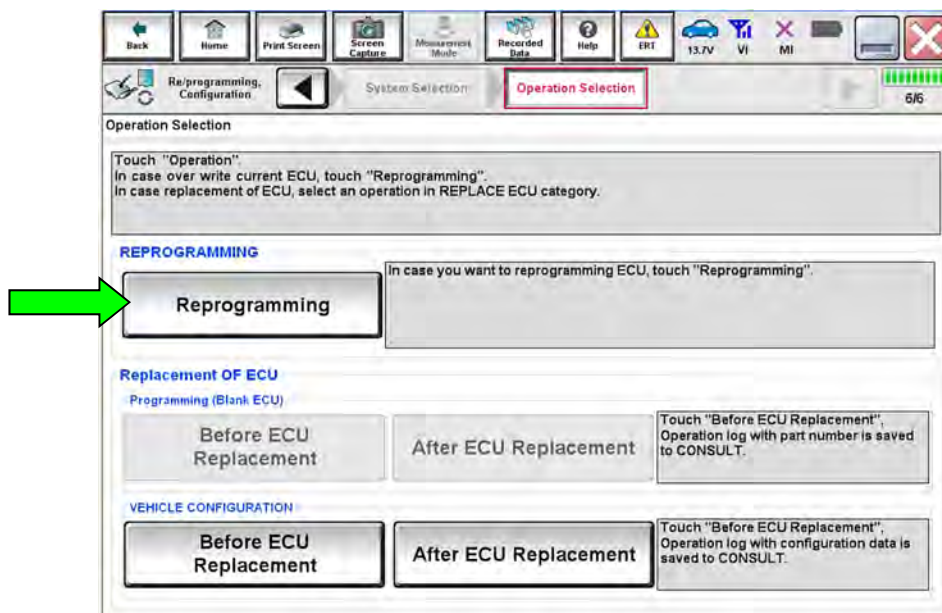

Figure 10
22. Repeat steps 10-18 a second time to navigate to the screen shown in Figure 10.